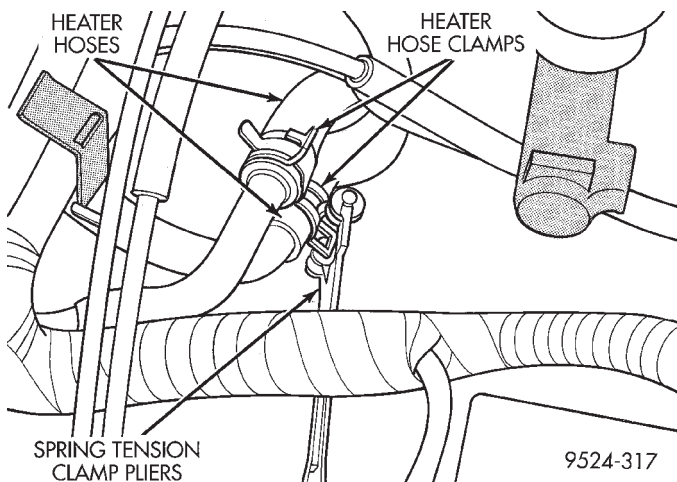
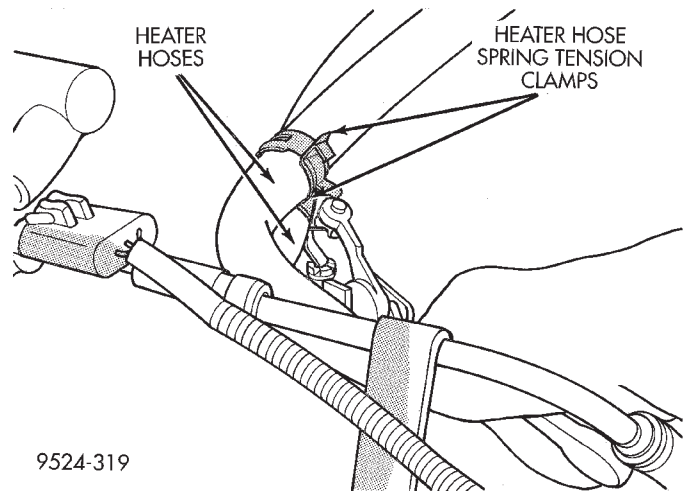

Fig. 55 Heater Hose Connection At Engine
Fig. 56 Heater Hose Connection At Heater Core
(1) Drain engine cooling system. Refer to Group 7, Cooling System.
(2) Using spring tension clamp pliers, remove clamps at each end of hose to be removed (Fig. 55) and (Fig. 56).
(3) Carefully rotate hose back and forth while tugging slightly away from connector nipple.
(3) Remove intake manifold plenum. Refer to Group 11, Exhaust System And Intake Manifold for service information.
(4) Using spring tension clamp pliers, remove clamp at heater core end of hose to be removed (Fig. 56).
(5) Carefully rotate hose back and forth while tugging slightly away from connector nipple.